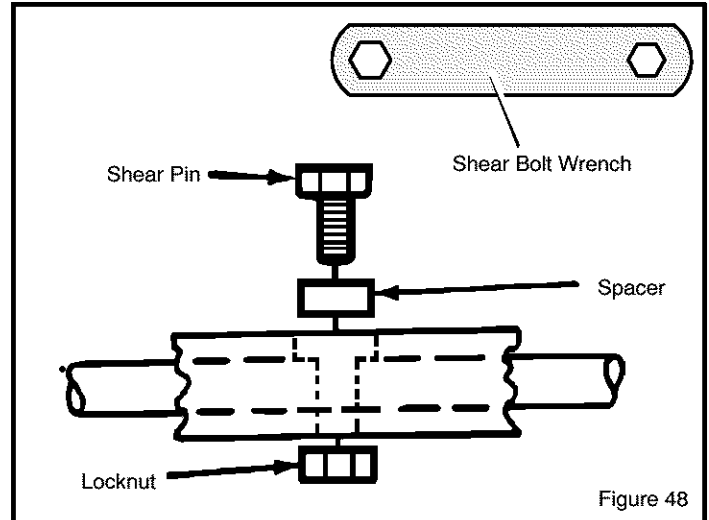

Figure 48
3. Align the hole in the auger with the hole in the auger shaft. Install new shear bolt, spacer and locknut found in the toolbox located on the belt cover (See Figure 48). Tighten with the shear bolt wrench.